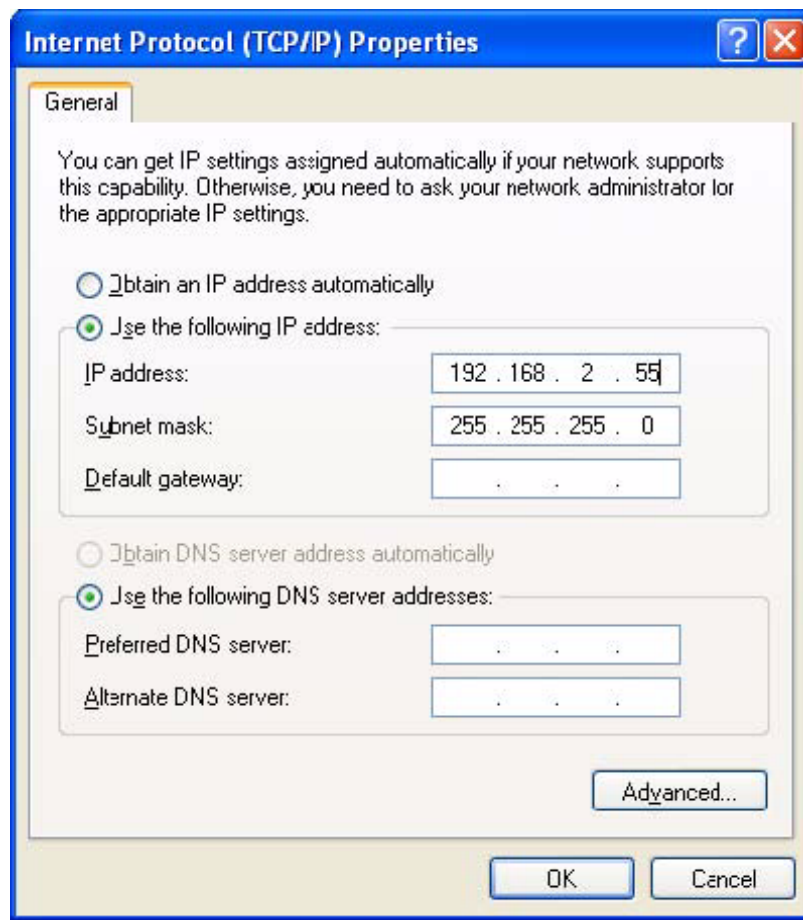

Figure F-2 IP settings page
- c. Select Internet Protocol (TCP/IP) and click on properties. Change the properties to value as in Figure F-2. Change the value of the TCP/IP properties as shown below